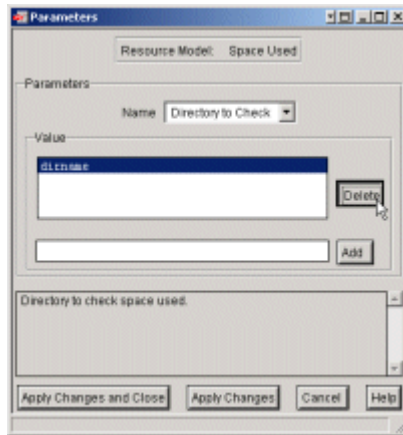

Figure 9-125 Deleting the default directory from the Value list
5. Select **dirname** in the Value list, and then select **Delete** as shown in Figure 9-125.